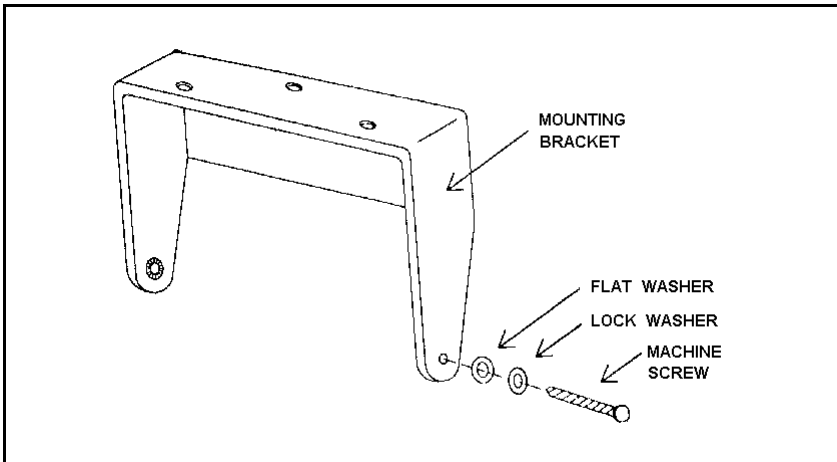

Figure 39: Speaker Mounting Bracket
1. Use the mounting bracket as a template for locating the mounting holes and mount the speaker as shown in Figure 39.